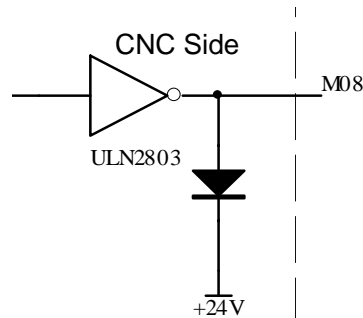

Fig.3-13-1 M08 internal circuit
- Internal circuit is as Fig. 3-13-1: